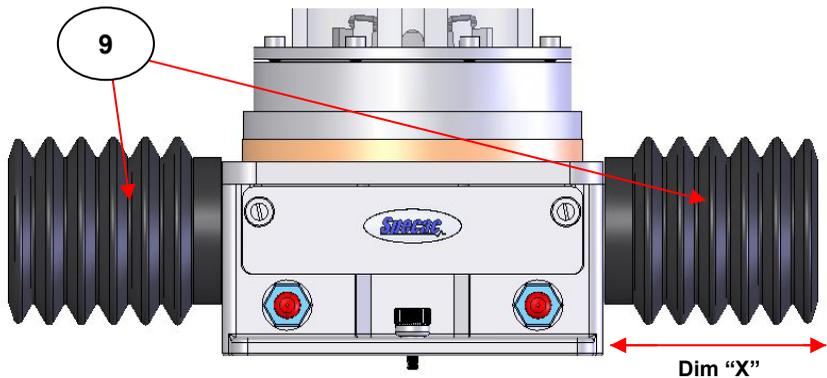

Fig 9. Purge Bellows (9) Fitted to Cyclone™ Optical Unit (1)
With the Benchmark™ base plate secured, and Cyclone™ gas cell installed correctly into position on the Benchmark™ baseplate, measure the approximate distance between the spectrometer side walls from the source and detector ports and the flat end surface of the optical unit (1) (Dimension 'X' – see Fig 9).
Fit the flexible purge bellows (9) over both circular aperture ports (10) (as seen at Fig 9.) and compress sufficiently to enable the gas cell and purge bellow assembly to fit back into the spectrometer on the Benchmark™ baseplate.